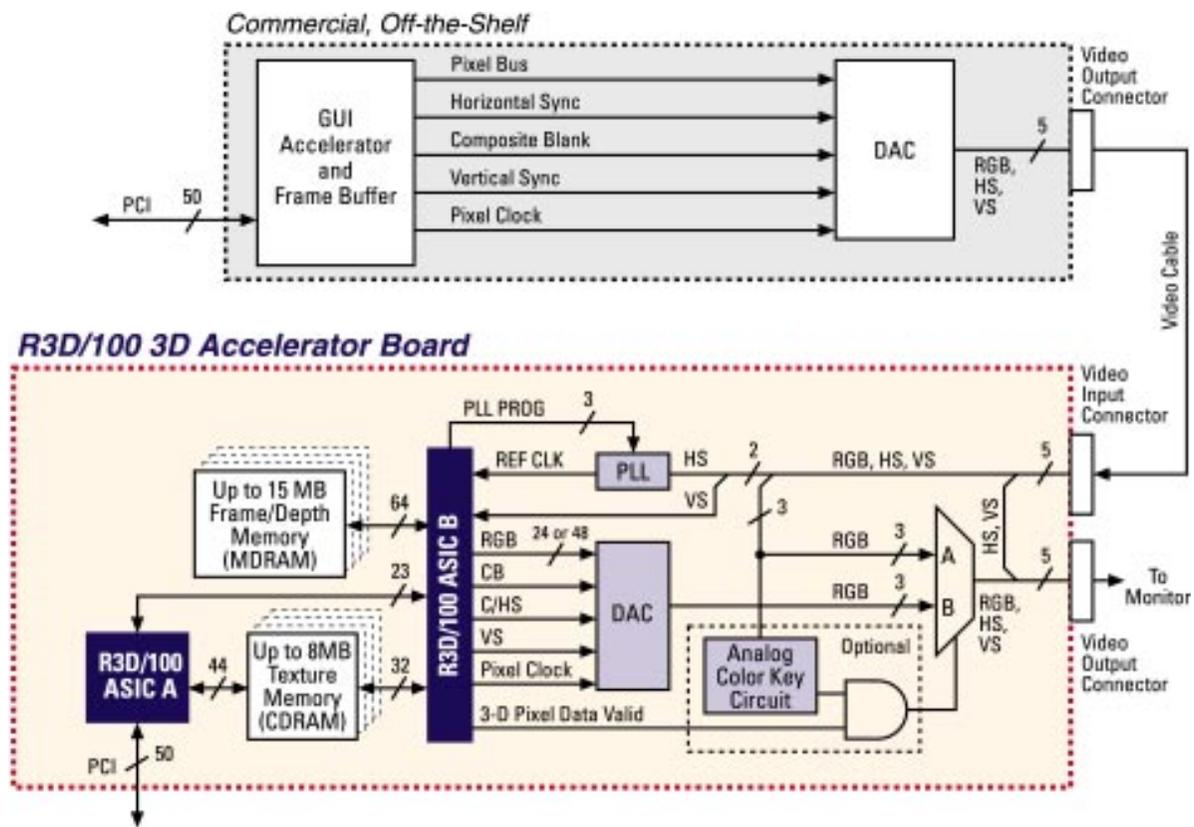
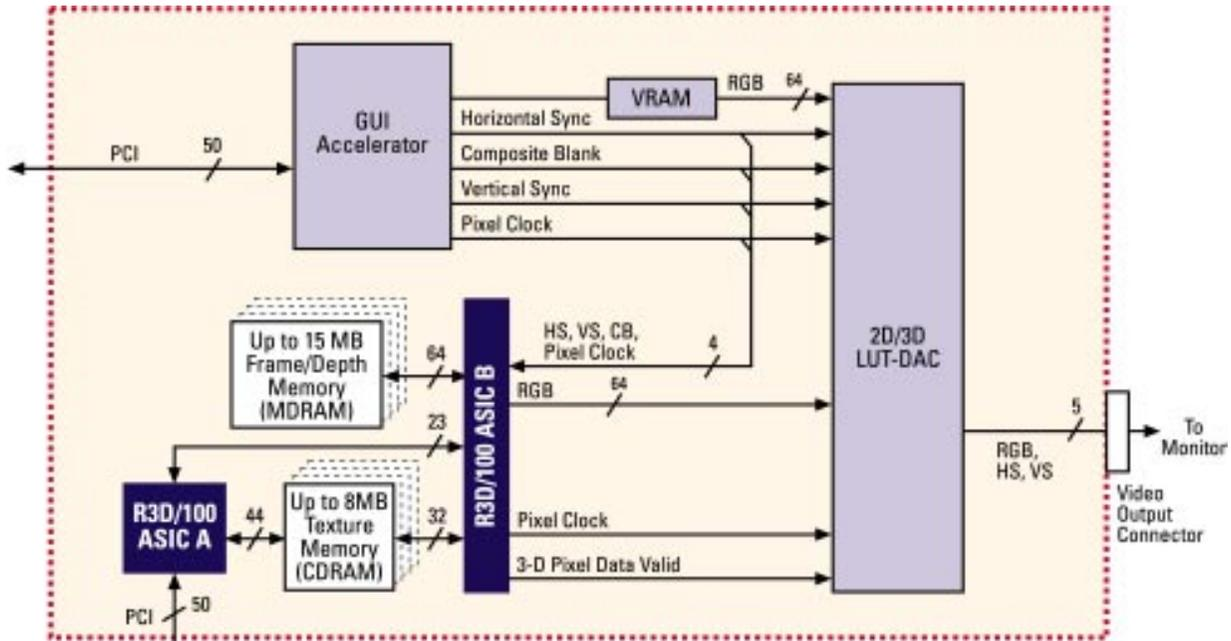
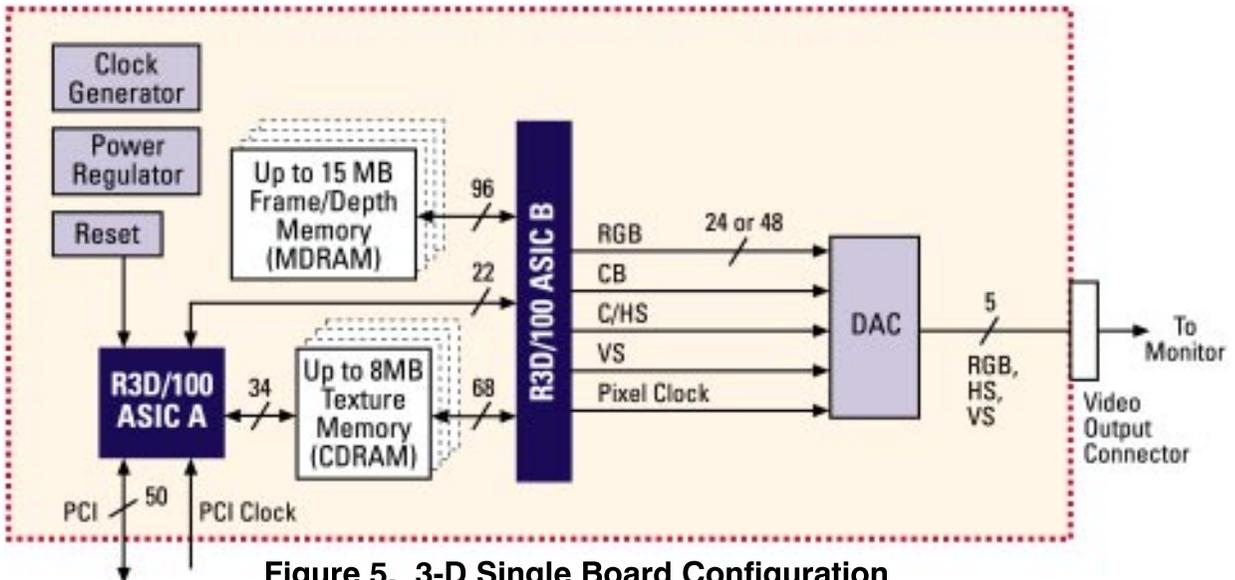

Figure 3. 2-D/3-D Analog Merge Separate Board Configuration
Figure 4. 2-D/3-D Digital Merge Single Board Configuration
Figure 5. 3-D Single Board Configuration
Figure 3 shows an external 2-D graphics accelerator card connected to a dedicated 3-D accelerator card with a video cable. Figure 4 shows a single board with both 2-D and 3-D graphics accelerators driving an advanced LUT-DAC which merges the two (digital) signals. Figure 5 shows a stand-alone 3-D graphics accelerator board. These are representative of interface methods, and by no means demonstrate all possible configurations. More information will be provided in the *R3D/100 Application Notes*.
- Full performance PC-based R3D/100 3-D graphics accelerator board (see Figure 3)